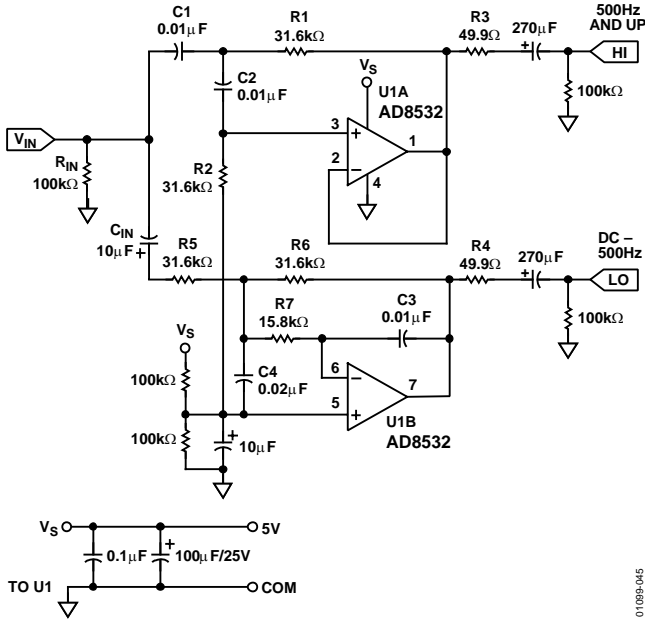

Figure 45. A Single-Supply, Two-Way Active Crossover
Active filters are useful in loudspeaker crossover networks for reasons of small size, relative freedom from parasitic effects, the ease of controlling low/high channel drive, and the controlled driver damping provided by a dedicated amplifier. Both Sallen-Key (SK) and multiple-feedback (MFB) filter architectures are useful in implementing active crossover networks. The circuit shown in Figure 45 is a single-supply, two-way active crossover that combines the advantages of both filter topologies. This active crossover exhibits less than 0.4% THD+N at output levels of 1.4 V rms using general purpose unity-gain HP/LP stages.